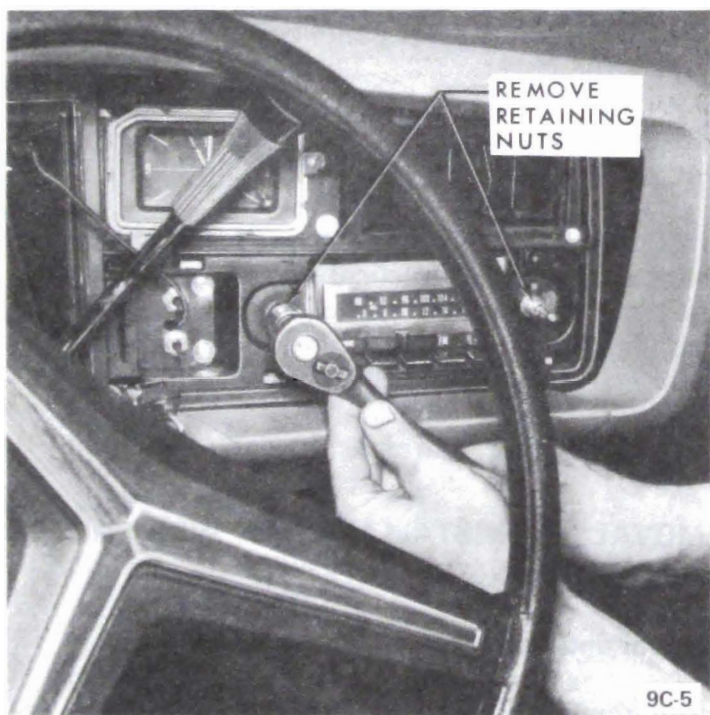

Figure 9C-9
4. Remove the ash tray by unscrewing (4) screws and pulling the ash tray and frame from the instrument panel. See Figure 9C-11.